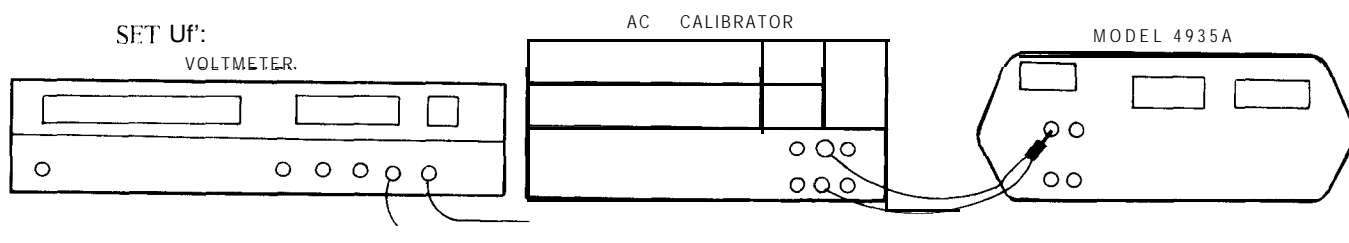

FIG 5-2. Receiver Adjustments
3. Connect the equipment as shown in Figure 5-2.